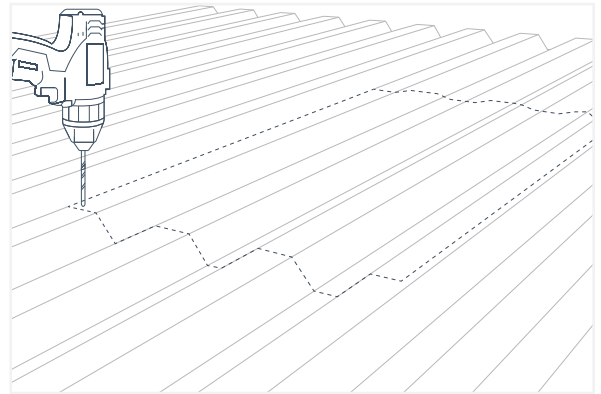

Fig. 11
3. Drill a 1/2” hole in the corner of the required opening (Fig 11).